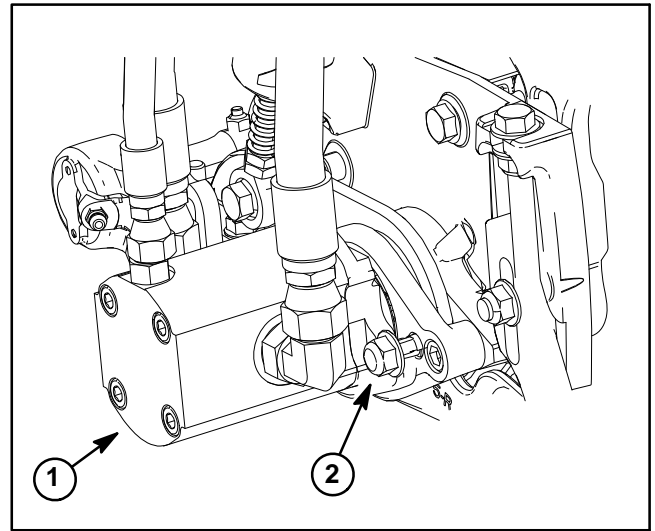

Figure 61
6. Loosen two (2) flange nuts or flange head screws that secure the hydraulic reel motor to the cutting unit side plate (Fig. 61). Rotate motor clockwise and remove motor from cutting unit.
4. Rotate the motor counter-clockwise until the motor flanges are encircling the cap screws or studs in the side plates. While holding motor, tighten two (2) flange nuts or flange head screws to secure reel motor to cutting unit (Fig. 61).